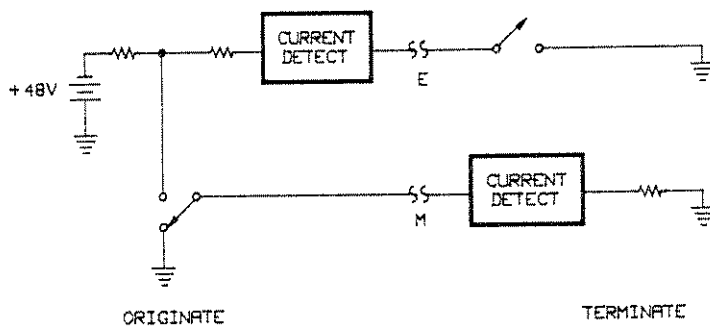

Figure 3-5. E/M Type I Signaling
E/M signaling is used primarily to signal the internal switching of the PBX or shorthaul trunks between two PBXs. E/M signaling uses a separate wire pair to send signaling information (E lead and M) from the pair used to send voiceband information (tip and ring). In addition, E/M Types II and III use a sense ground (SG) and sense battery (SB) leads to improve signaling performance. (see Figures 3-5, 3-6, and 3-7)